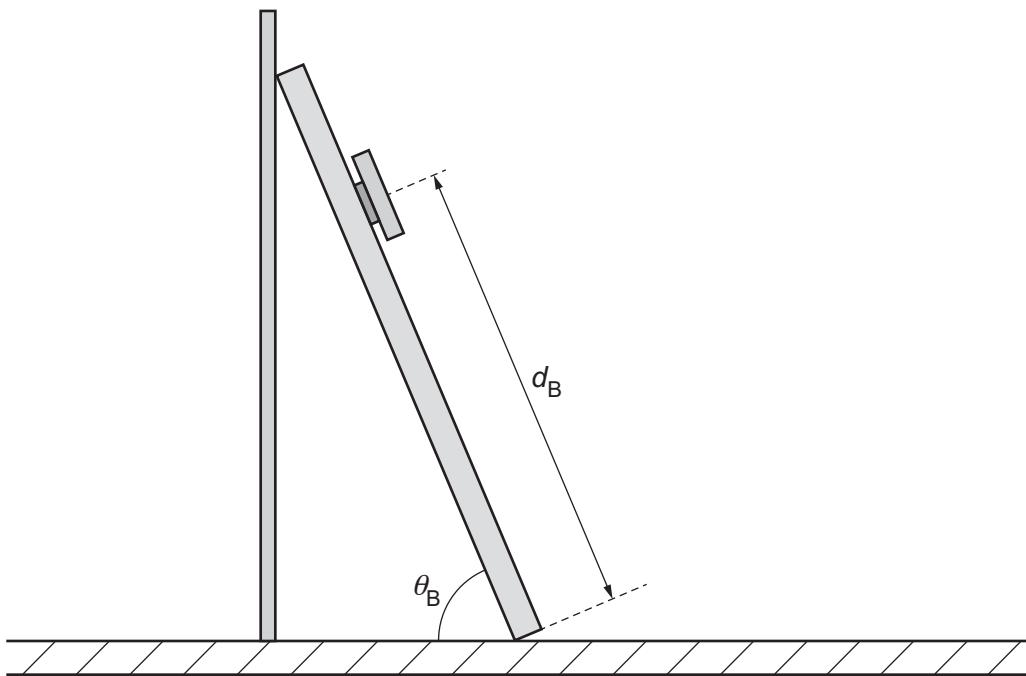

Fig. 2.3
(v) • Invert the thicker strip and lean it against the smooth board so that the slotted mass is nearer the upper end as shown in Fig. 2.3.
• The angle between the strip and the bench is θ_B , as shown in Fig. 2.3.